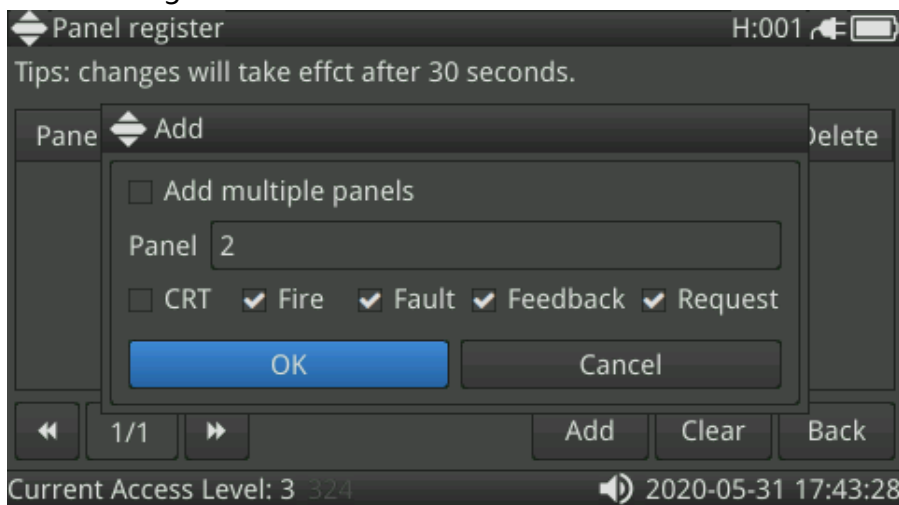

Figure 4-15 Edit Slave Interface
- ✧ Press the **TAB** key, let the cursor jumps to the **Edit** button, then press the **OK** key to bring up the edit page of this slave, as shown in Figure 4-15.